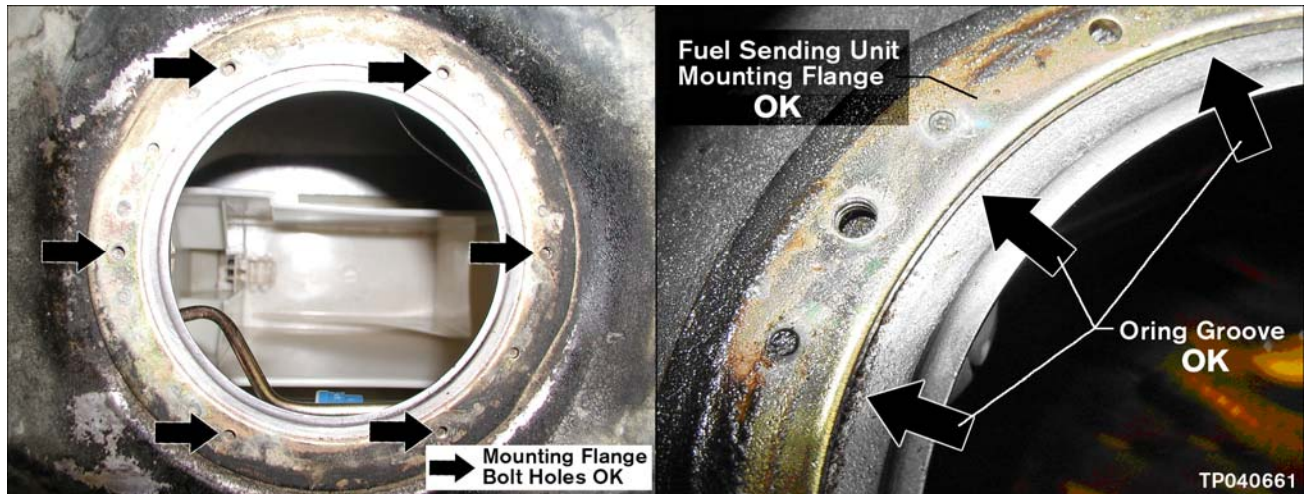

Figure 38
5. Inspect the Fuel Tank Sending Unit Mounting Flange and O-Ring Groove (see Figure 38 and 39).